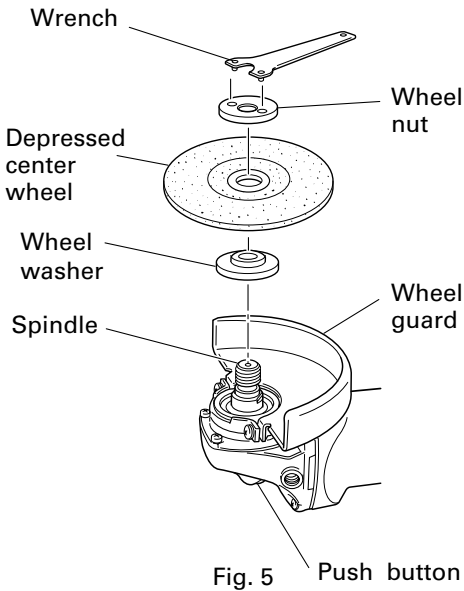

Fig. 5 Push button
10. Check the push button. Make sure that the push button is disengaged by pushing push button two or three times before turning on the grinder. (Fig. 5)
- (1) Turn the disc grinder upsidedown so that the spindle is facing upward.
- (2) Align the oval-shaped indentation of the wheel washer with the notched part of the spindle, then attach them.
- (3) Fit the protuberance of the depressed center wheel onto the wheel washer.
- (4) Screw the wheel nut onto the spindle.
- (5) While pushing the push button with one hand, lock the spindle by turning the depressed center wheel slowly with the other hand. Tighten the wheel nut by using the supplied wrench as shown in Fig. 5.